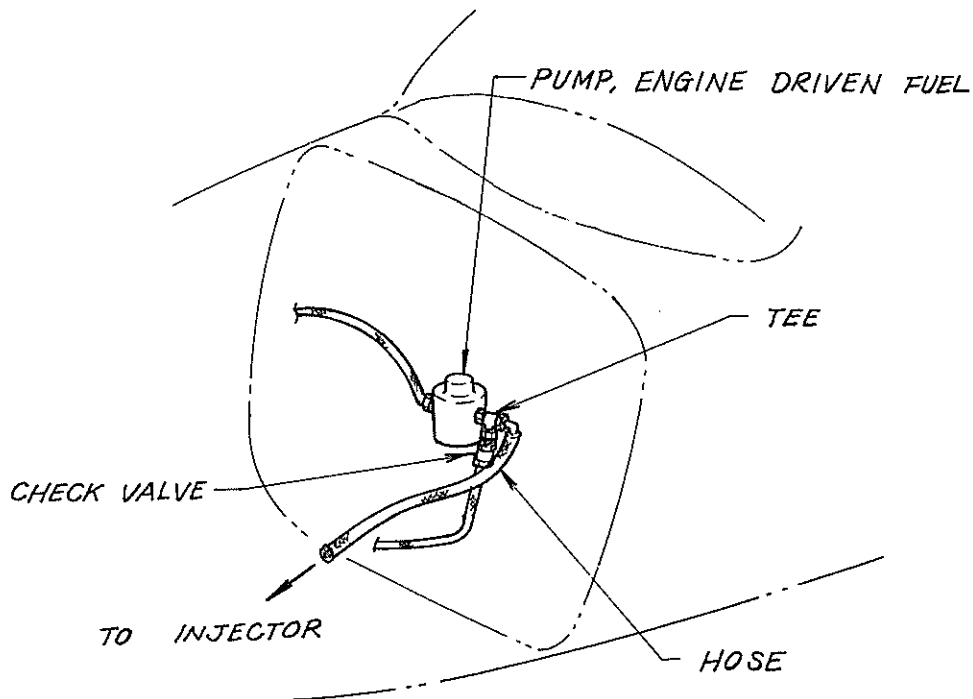

FIG. 1
13. DETAILED INSTRUCTIONS : (See figure 1.)